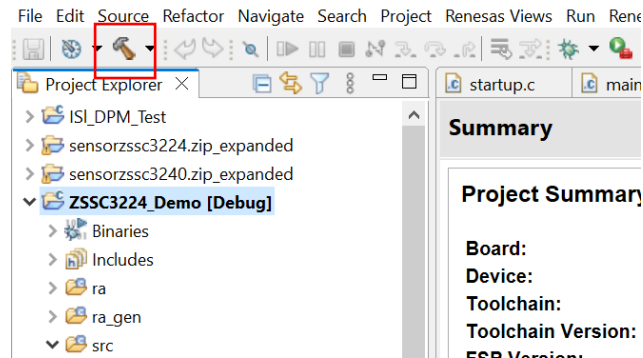

Figure 19. Project Build
2. Click the “Build” icon (see Figure 19).